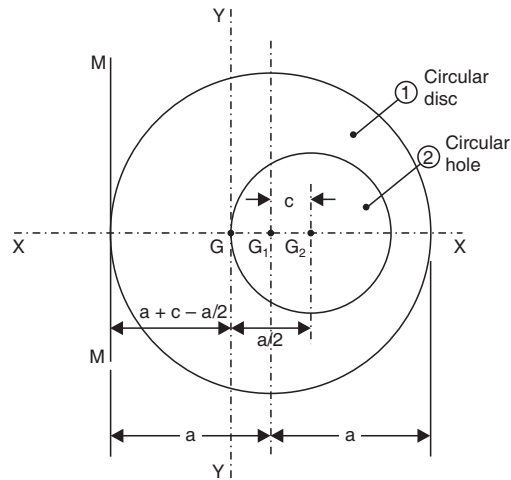

Fig. 4.28
**Sol.** Refer to Fig. 4.28. Since, the remaining body is symmetrical about X-axis, therefore,  $\bar{y} = 0$ .